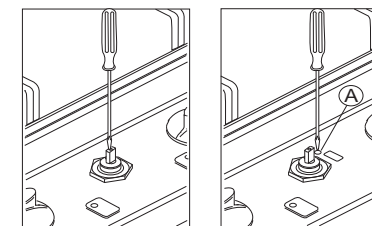

Fig. 7
Attention: in taps with security valve, the minimum adjusting screw (A) is placed outside the rod tap (see fig. 7).